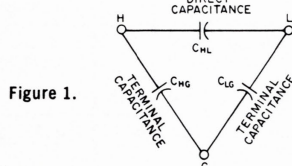

Figure 1.
Most capacitors can be represented by the three capacitances shown in Figure 1: the direct capacitance C_{HL} , capacitance between the plates of the capacitor and the two terminal capacitances, C_{HG} and C_{LG} , which are capacitances from the corresponding terminals and plates to the capacitor case, surrounding objects, and to ground (to which the case is connected either conductively or by its relatively high capacitance to ground).
A three-terminal capacitor (Figure 1) has connected to the G terminal a shield that completely surrounds at least one of the terminals (H), its connecting wires, and its plates except for the area that produces the desired direct capacitance to the other terminal (L). Changes in the environment and the connections can vary the terminal capacitances, C_{HG} and C_{LG} , but the direct capacitance C_{HL} is determined only by the internal geometry.